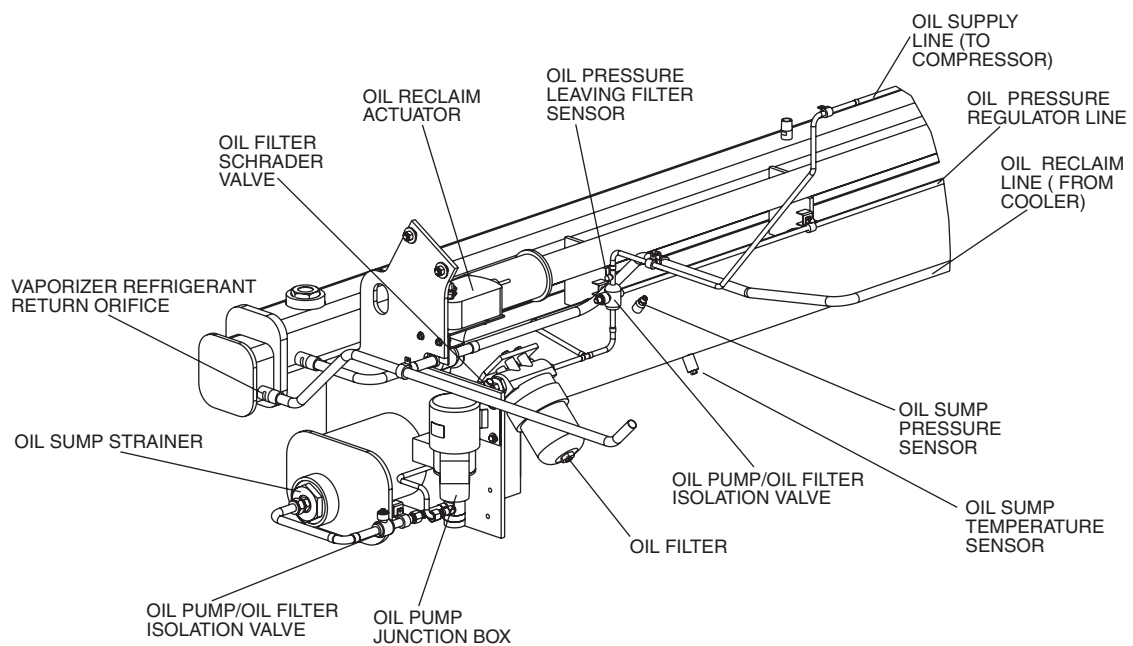

Fig. 26 — Oil Reclaim Components
7. Disconnect all wires and cable leads to the vaporizer assembly (see Fig 26) including: